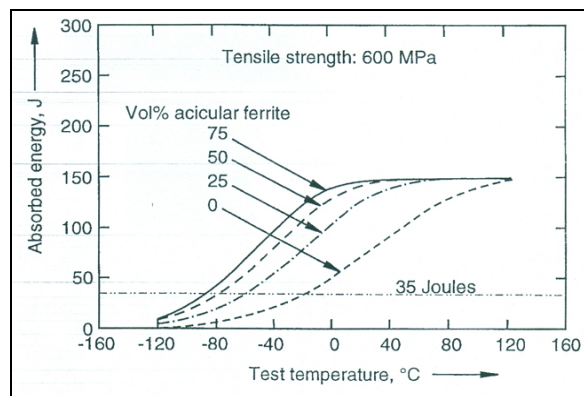

Figure 2: Effect of acicular ferrite volume to the fracture strength.
- (a) Based on Figure 2, fracture strength of weldment increase as the percentage of volume of acicular ferrite increase. Discuss how acicular ferrite able to increase fracture strength. (6 Marks)